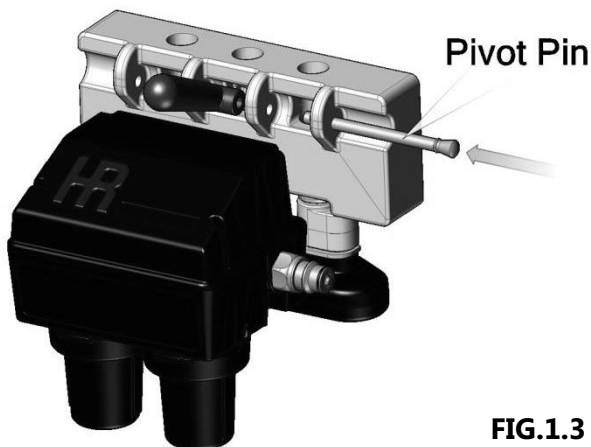

FIG.1.3
3.) While holding the Draw Valve Handle in place, reinsert the longer Pivot Pin as illustrated **FIG.1.3**.